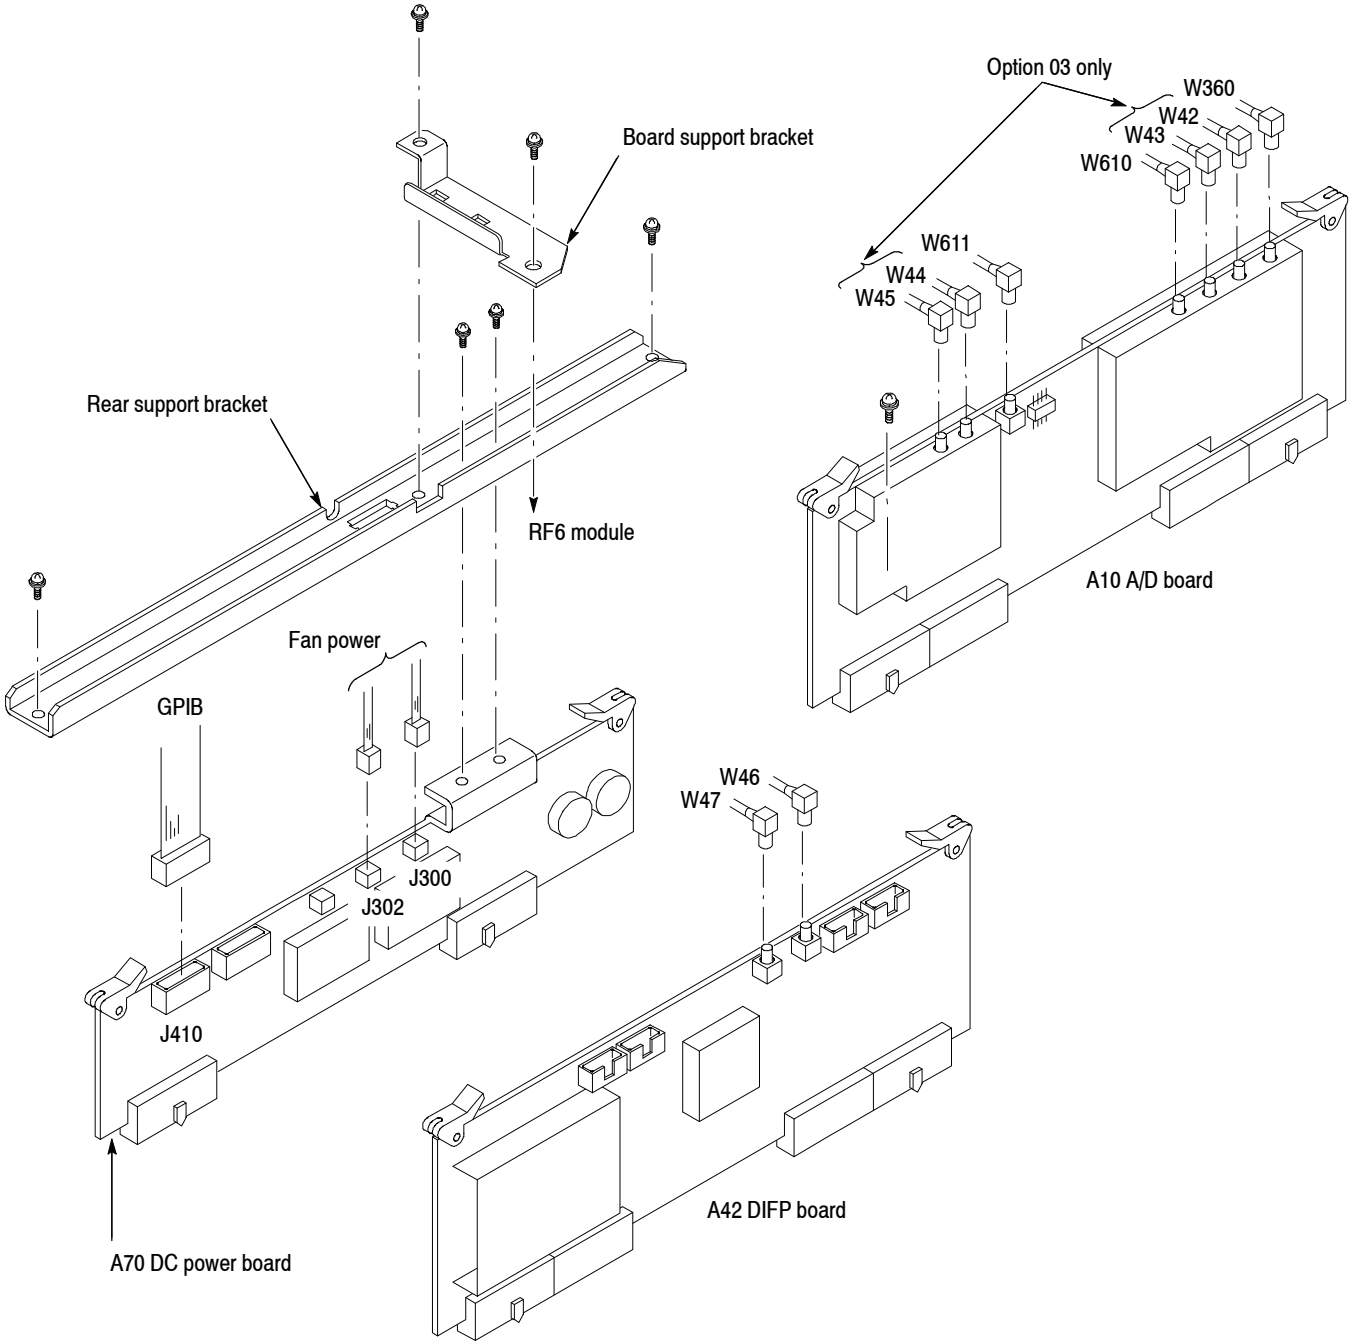

Figure 5-22: Daughter boards removal
3. *Remove the board support bracket:* See Figure 5-22 on page 5-43. Remove the two screws securing the board support bracket to the rear support bracket and the RF6 module. Lift the board support bracket away.
4. *Remove the A10 A/D board:* See Figure 5-22. Also see Figure 5-37 on page 5-75 for the cable interconnection.
3. *Remove the A42 DIFP board:* See Figure 5-22. Also see Figure 5-37 on page 5-75 for the cable interconnection.
3. *Remove the rear support bracket:* See Figure 5-22.
4. *Remove the A70 DC power board:* See Figure 5-22.